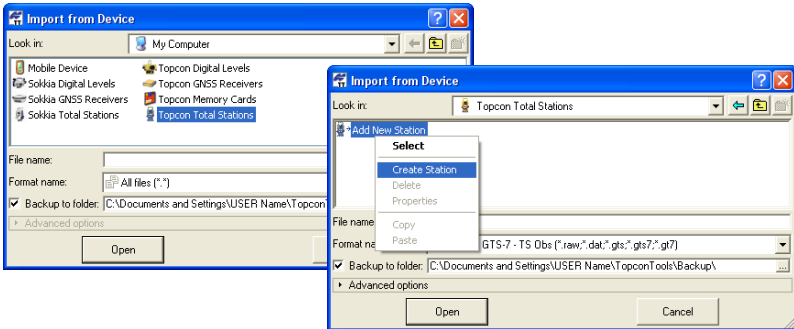

Figure 3-39. Creating a New Station for Topcon Total Station
3. To add a device, right-click **Add New Station** and click **Create Station** (Figure 3-39).
- To add a device, right-click **Add New Station** and click **Create Station** (Figure 3-39).